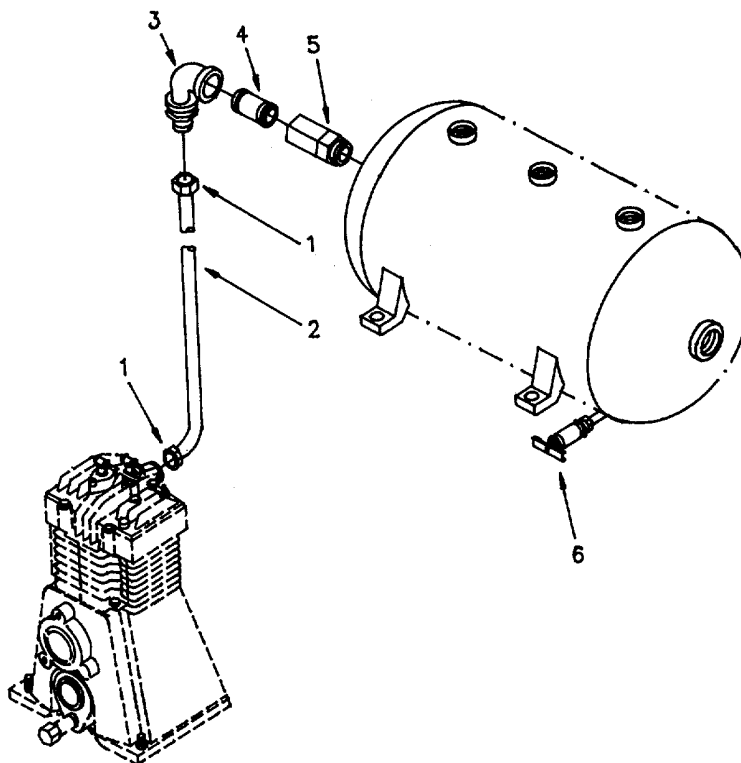

Figure 4-25. Check Valve and Drain Valve.
- (5) When pressure is reached (175 psi), drain tank slowly of air pressure using drain valve (6, Figure 4-25) to reload compressor.
- (6) Shut off drain valve (6) and allow compressor to build pressure.
- (1) Loosen tube nuts (1, Figure 4-25) and remove metallic tube (2) from pipe elbow (3) and reciprocating compressor.
- (2) Remove pipe elbow (3), pipe nipple (4), and check valve (5).
- (1) Install check valve (5, Figure 4-25).
- (2) Install pipe nipple (4) and pipe elbow (3).
- (3) Install metallic tube (2) and tube nuts (1) and tighten.